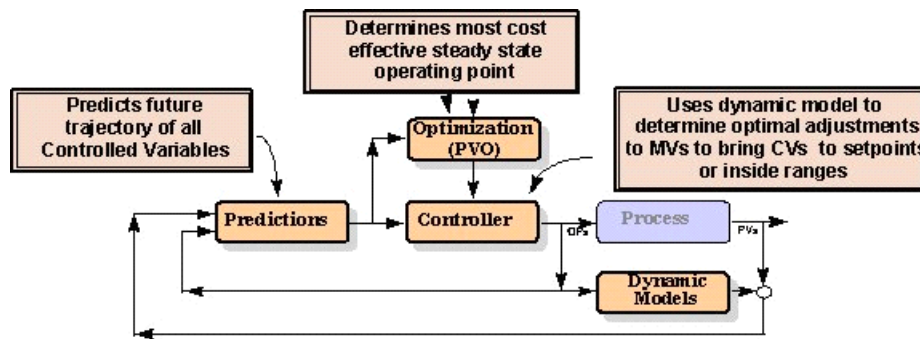

Figure 4: Product Value Optimization within Profit Controller
The first level of optimization available in Profit Suite is the Product Value Optimization (PVO) built directly into the Profit Controller, a robust multivariable controller using patented Robust Multivariable Predictive Control Technology (RMPCT). The PVO option of Profit Controller provides economic optimization for a process unit (or sub-unit) based on a quadratic (QP) objective function. The user specifies product values and associated production costs, which are then used to maximize the most valuable products, subject to unit constraints. The optimizer uses the controller’s dynamic process models and is fully integrated with the controller to provide dynamic optimization. Therefore, both the optimum steady-state solution and the best path to that optimum are calculated at each iteration as part of the optimization process. PVO is illustrated in Figure 4.